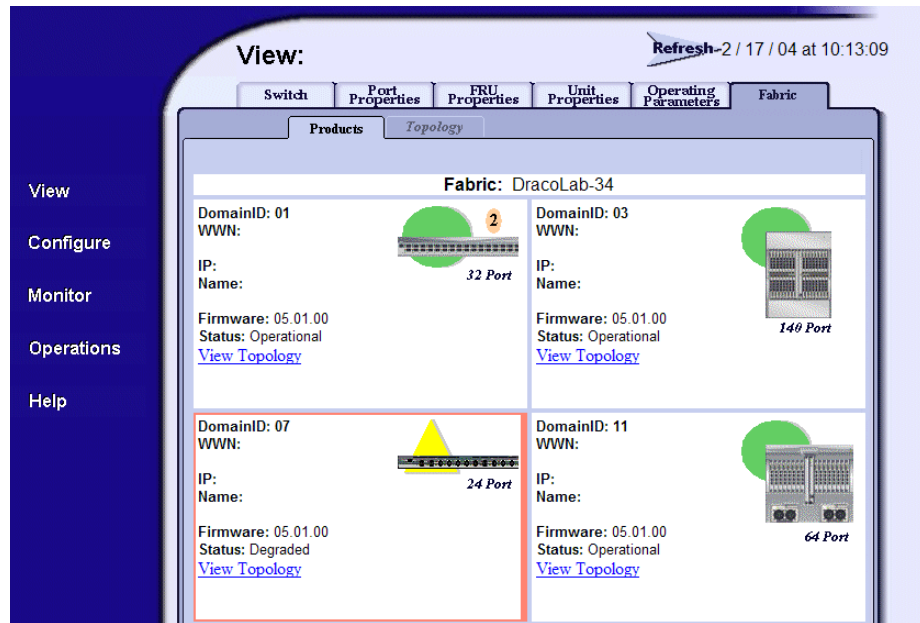

Figure 31: Fabric tab with Products tab view
2. Choose the **Fabric** tab and the **Products** tab. The **Products** tab view displays (Figure 31).